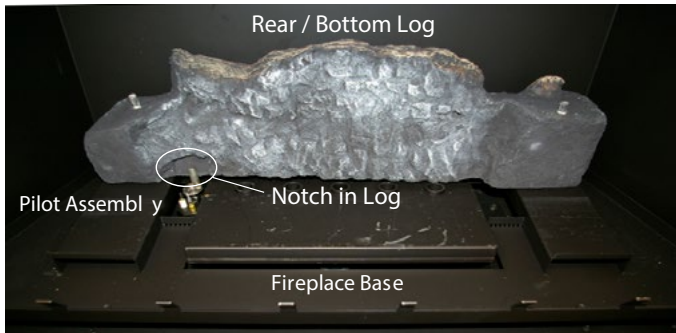

Figure 10a. Placing Bottom Rear Log.
Step 2. Place the bottom Rear log as shown in **figure 10a**.